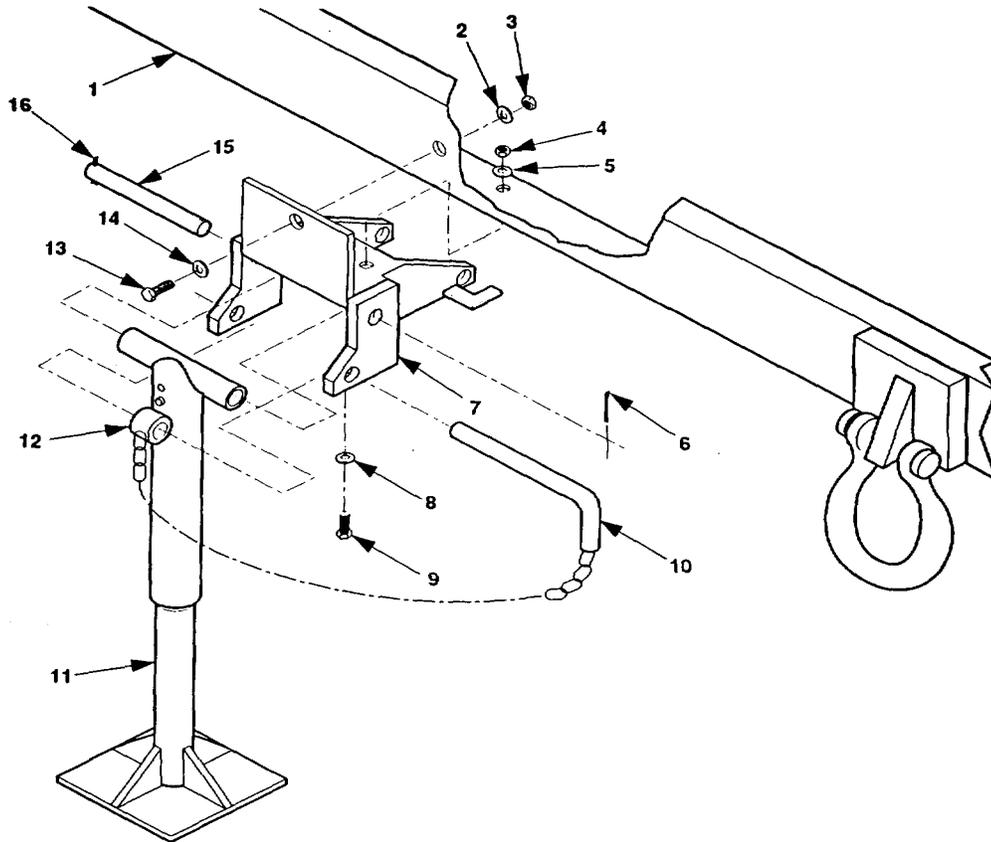

Figure 4-27. Rear Leveling-Support Jack Replacement, 1 Ton Trailer.
- a. Clamp leg assembly in a vise with spring pin (2, Figure 4-27) facing up.
- b. Drive the spring pin (2) out of upper leg (1) and remove leg base (4).
- c. If defective, remove lubrication fitting (3).
- d. Inspect upper leg (1) and leg base (4) for damage. If either needs to be replaced, replace entire trailer rear leveling-support jack.
1. Install bracket (7, figure 4-27) on trailer chassis (1), with flat washer (14) and cap screw (13), through mounting hole in bracket (7) on trailer chassis (1).
2. Install flat washer (2) and a new self-locking nut (3) on cap screw (13).
3. Install cap screws (9), flat washers (8 and 5), and new self-locking nuts (4).
4. Position leg base (11) and attached parts in bracket (7) and install retaining pin (10).
5. Position leg base (11) and install pivot shaft (15).
6. Install new cotter pin (16 or 6) in pivot shaft (15).